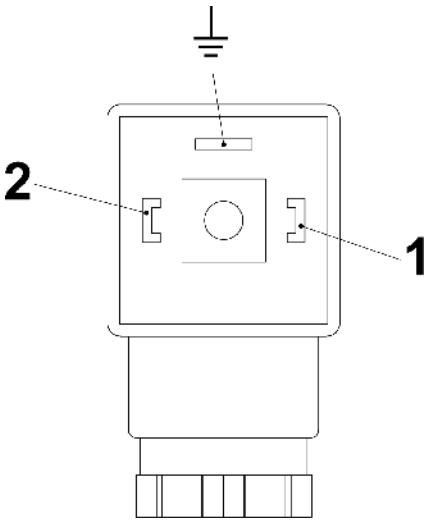
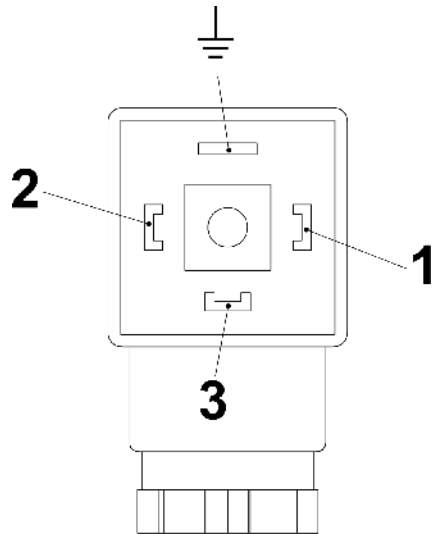

Fig. 25: Pin assignment, plug socket, Normally Open Contact (Form 30x70)
Fig. 26: Pin assignment, plug socket, Change-over contact (Form 30x70)
6. ➤ Make the connections as shown in the connecting diagram (Fig. 25 und Fig. 26)